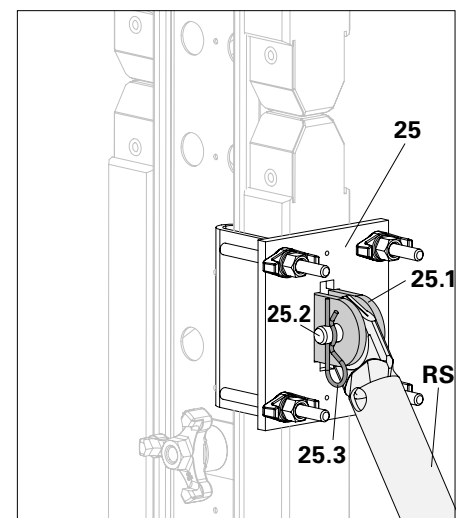

Fig. A6.06
- Connect the Girder Headpiece (25) to the extension splices of two girders: connect Push-Pull Prop (RS) to connection lugs (25.1) using bolts (25.2) and cotter pins (25.3). (Fig. A6.06)